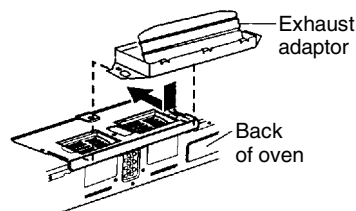

Figure 23
7. Attach the exhaust adaptor to the blower plate by sliding it into the Guide. See Figure 23.